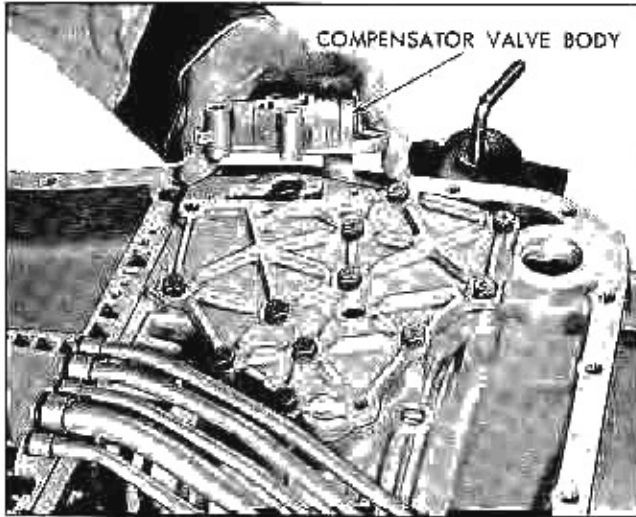

Fig. 42 Removing Compensator Valve Body
13. Remove the compensator valve body assembly (Fig. 42).